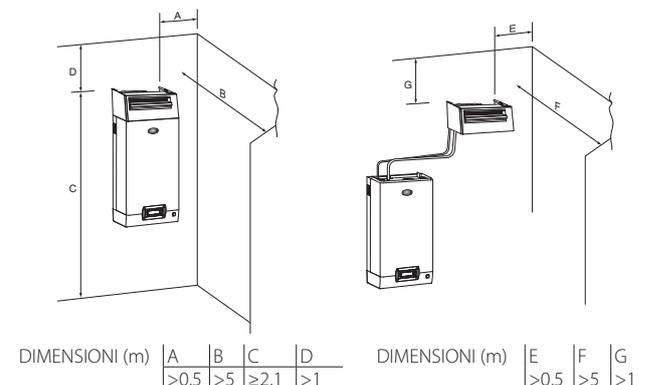

Fig. 3.c
2. the "L"-shaped mounting support (see part 1 Fig. 3.c) is supplied with steam distributor models from DP085\* to DP205\*. For shorter lengths, the support can be supplied as an option (code 18C478A088).
To drain the condensate, connect a drain hose with a drain trap and a minimum slope of 5° to the bottom of the humidifier (see Fig. 3.d). CAREL condensate drain hoses: code 312353APG